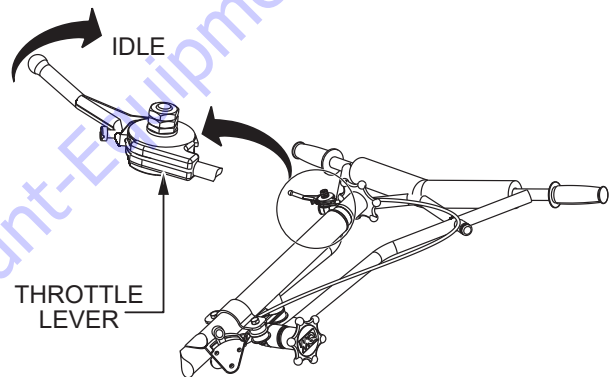

Figure 35. Throttle Lever (Idle)
3. Place the throttle lever in the **IDLE** position (Figure 35).